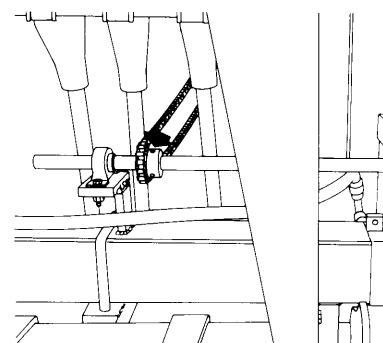

Figure 18
- 7/ Loosen the Allen Key grub screws which retain the drive sprocket on the cross shaft (see figure 18) and slide the drive gear into alignment with the gearbox input sprocket. Retighten the grub screws. (You may need to polish corrosion off the shaft with emery paper to move the sprocket easily)